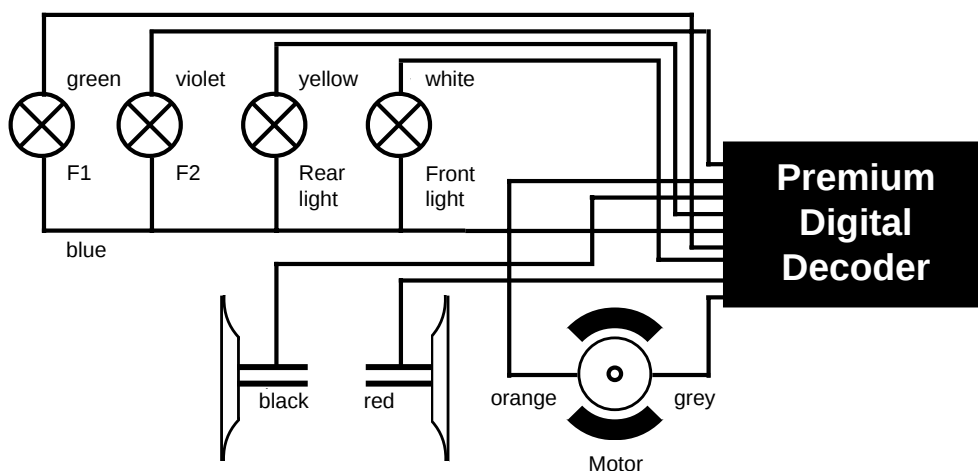

Fig. 2: Connection of the Premium Digital Decoder in locomotives with **isolated special functions**
- a) The lamps/functions with their joint connection are isolated from the locomotive housing (i.e. free of potential). The connection required is shown in **Figure 2**.
Otherwise (see Figure 2), all the remaining connections of all the bulbs and functions must be connected together to the blue cable. This in turn must not have any contact with the locomotive chassis!
Only use digital smoke generators in locomotives that are wired up according to **Figure 2**, e.g. Seuthe No.11.